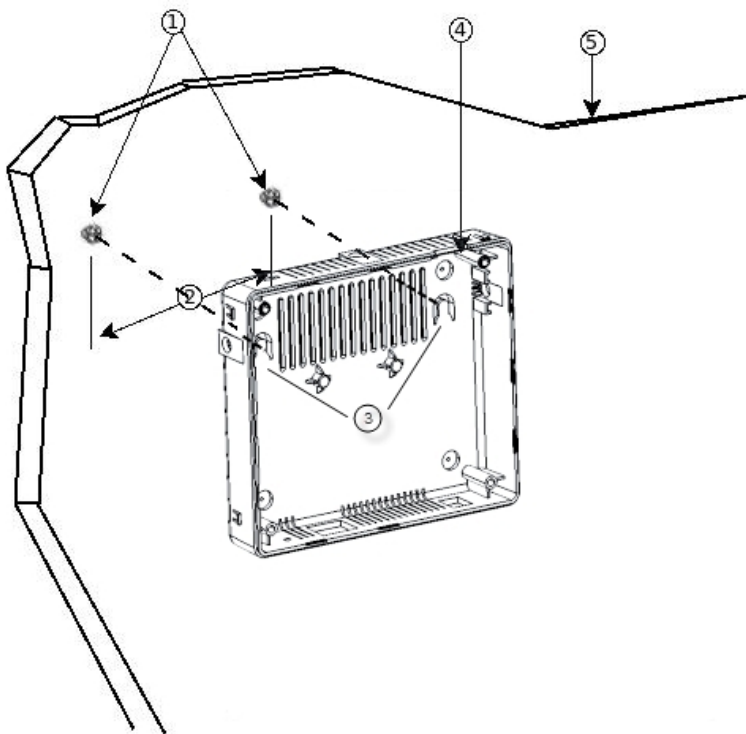

Fig. 8: **Wall-mounting features**
**Step 2** Hang the router on the screws. This is the appropriate position for safe use. (See Fig. 8 on page 9)